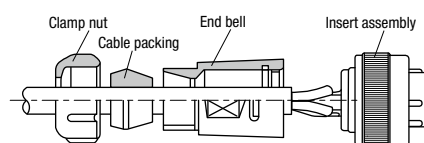

Figure 1
- 3) Move the cable back, forth, left, and right to fit it (Figure 1). Tighten it again with the specified torque value.